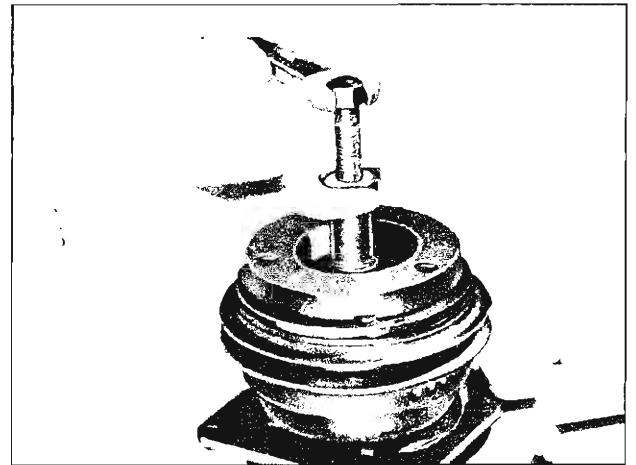

Fig. 16—Removing Hub and Drive Plate Assembly
3. Tool J-9401 may now be used to remove the hub and drive plate assembly (fig. 16).